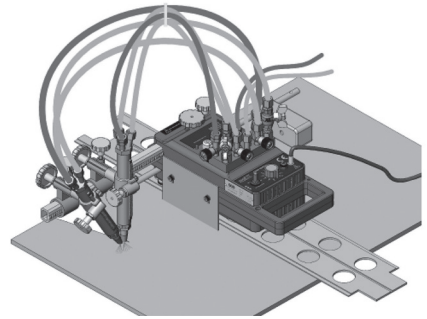

Fig.8: Bevel cutting and strip cutting with two torches
7. Use proper cutting nozzles according to point 2.4 above. GCE proFIT® SLM machine with two torches can be used for bevel cutting and for strip cutting as shown at the Figure 8.